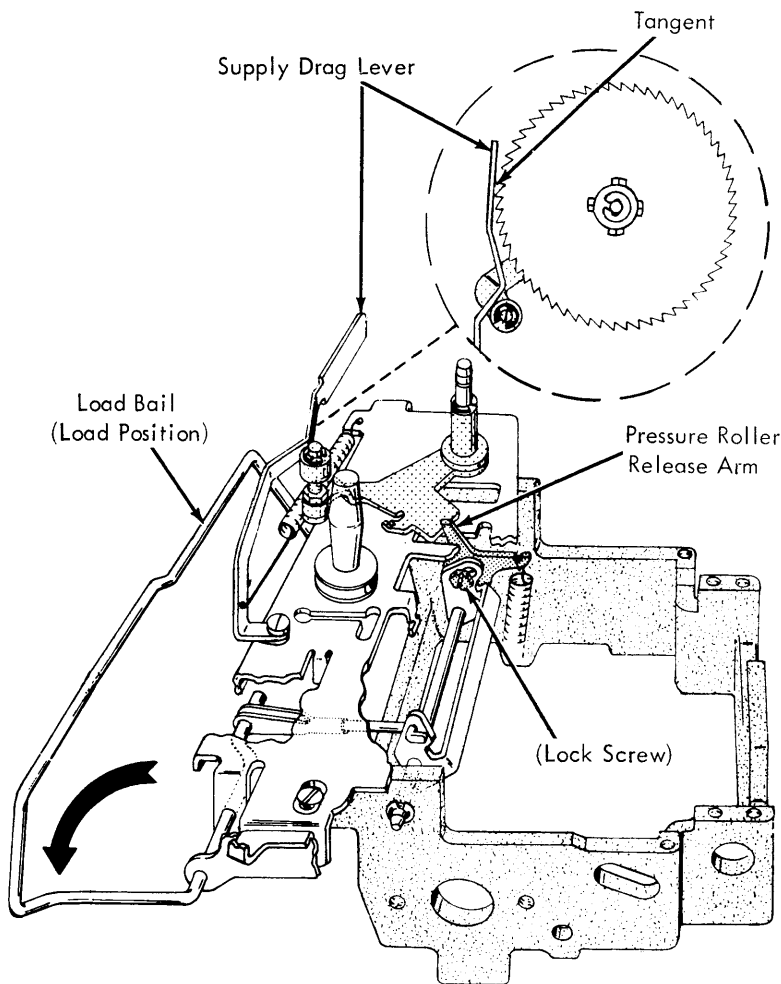

FIGURE 199. Pressure Roller Release Arm
2. Pressure Roller Release Arm - When the load bail is pulled forward into its load position the supply drag lever should be pushed forward, by the pressure roller, sufficiently to just clear or be tangent to the front edge of the supply spool. Adjust the pressure roller release arm (located on the left end of the load lever) by its lock screw to obtain this condition (Fig. 199). Do not form the supply drag lever to obtain this adjustment.